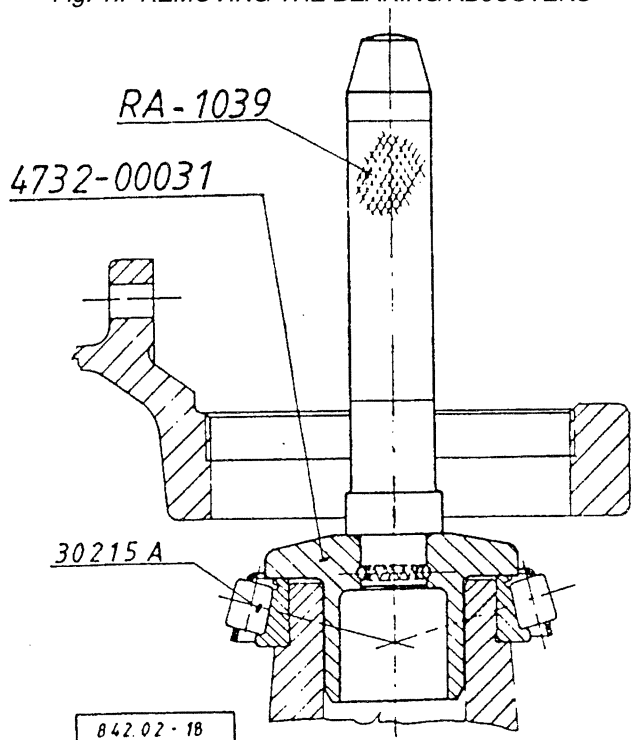

Fig. 2.: DRIVING ON THE TAPER ROLLER BEARING INNER RACE
By means of the tool shown in Fig. 2. tap the differential toward the flanged differential case half (31) so, the cup of the taper roller bearing (19) falls out.
Position the cone of the taper roller bearing (19) to the differential case half (24) and by means of the tool shown drive on to bottom out (see Fig. 2.).